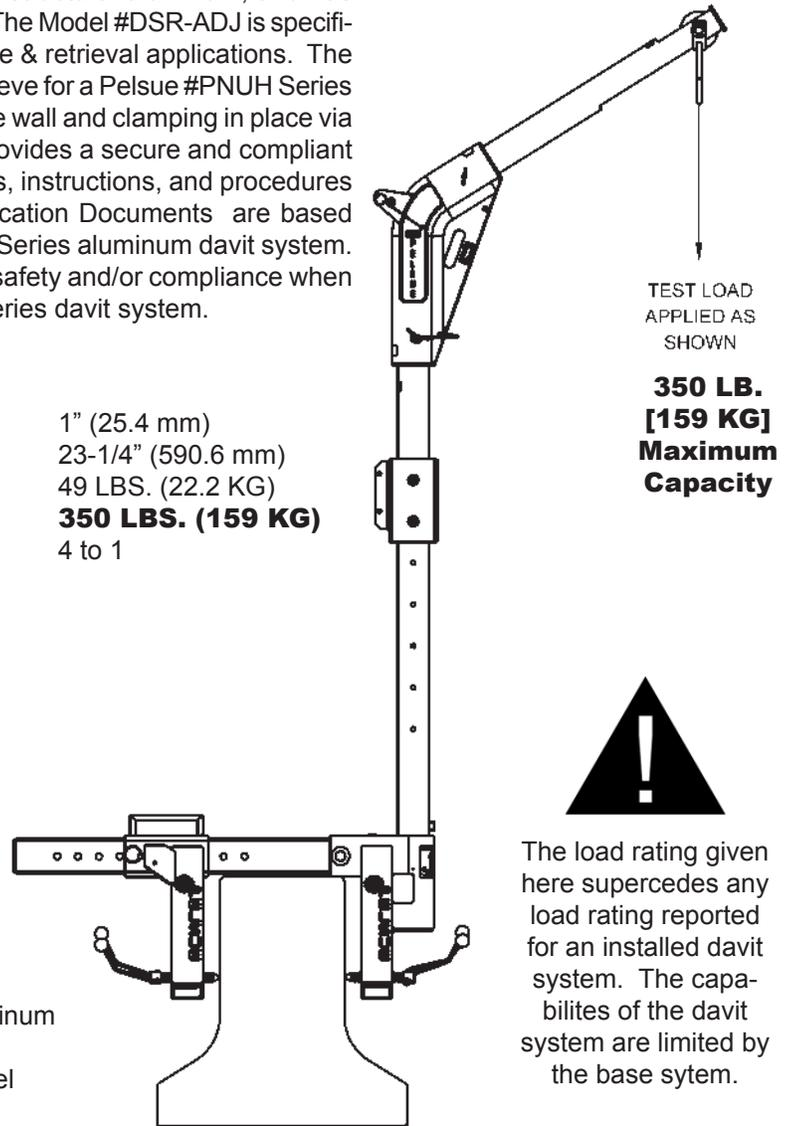

Figure 5a: #DSR-ADJ Loading Diagram
- b.** Remove the detent pin from the aft support and slide the aft support a distance along the spanner tube that will allow the aft support and head assembly to rest on opposite sides of the installation wall (refer to Figure 5a)